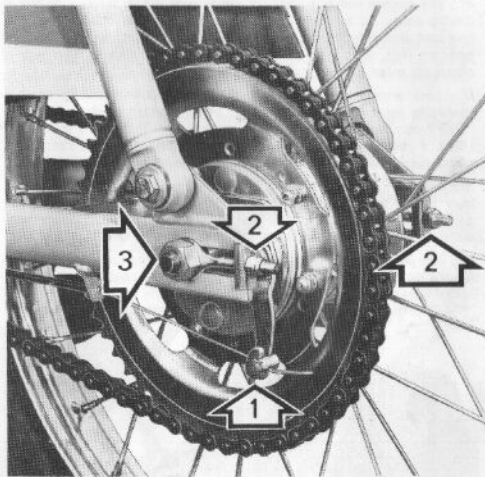

Fig. 17
- a. To disconnect the brake cable, push the brake arm (1, Fig. 17) forward and unhook the cable stop without unscrewing it.
- b. Loosen wheel nuts (3) and disengage the chain tensioners (2) without changing their adjustment.